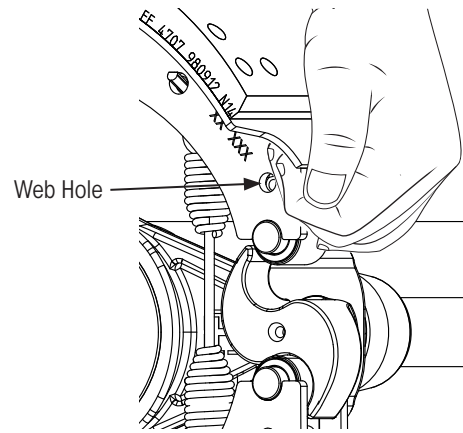

Figure 47: Attaching new brake return spring
13. Securely **lock** the retaining clip in the brake shoe web holes (Figure 47).
4. Securely **lock** the roller retaining clip in the brake shoe web holes (Figure 47).